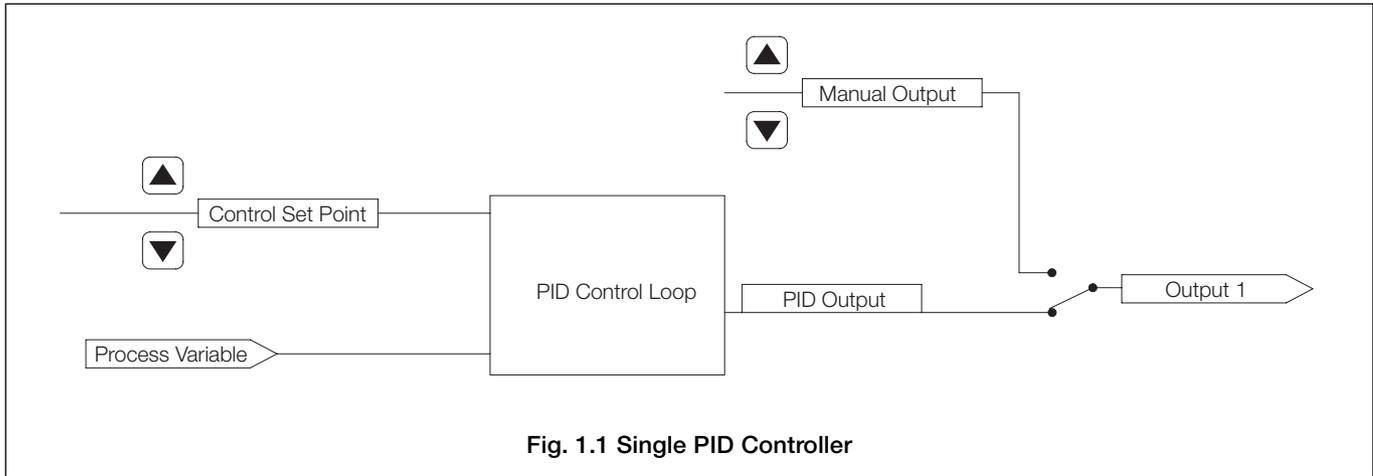

Fig. 1.1 Single PID Controller
1.1 Single PID Controller – Fig. 1.1